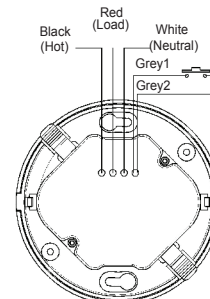

Figure 4
4. Connect high voltage wires to the appropriate terminals on the sensor. See the table below and Figure 4.